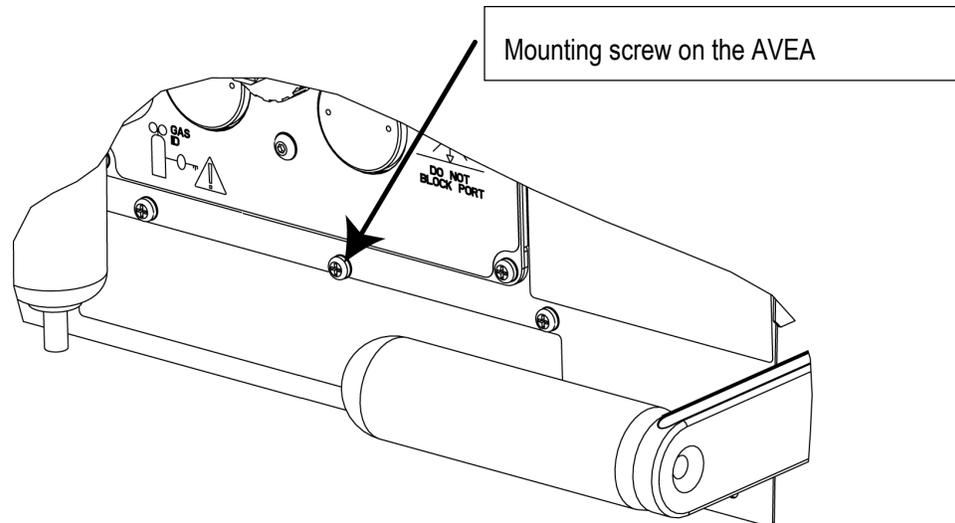

Figure 3.37
2. After attaching the Air connector, remove the Philips screw from the rear of the AVEA. (Figure 3.37)